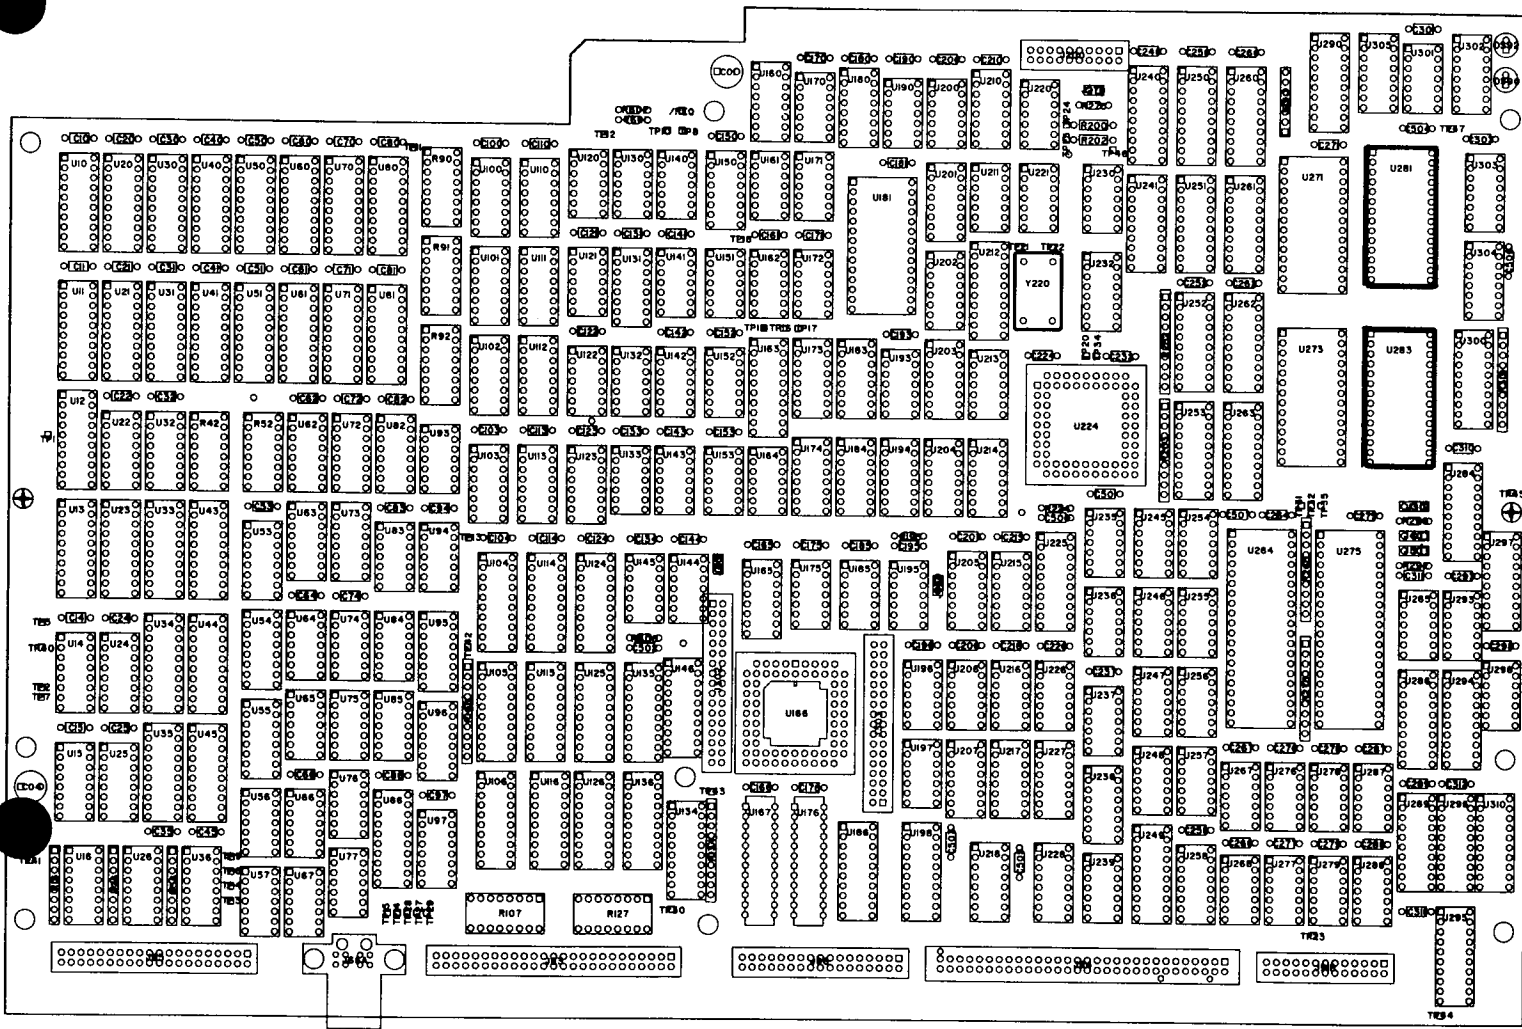

Figure 5 - Time Base Circuit Board A6.
- ( ) 11. Position the instrument with the bottom facing the installer. The Time Base circuit board A6 is located towards the front of the instrument. Remove U281 and U283, microcircuits, located on the Time Base circuit board, and replace with the new microcircuits U281, pn 160-3941-XX and U283, pn 160-3942-XX, provided in this kit. (refer to Figure 5 for component locations).